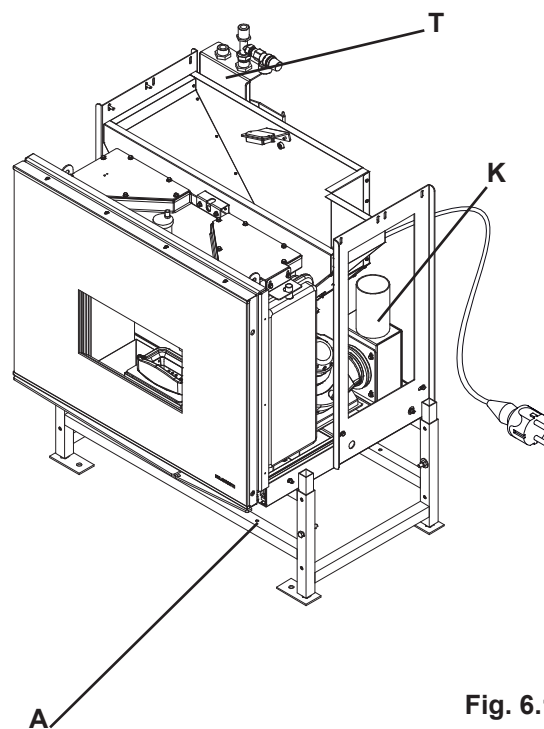
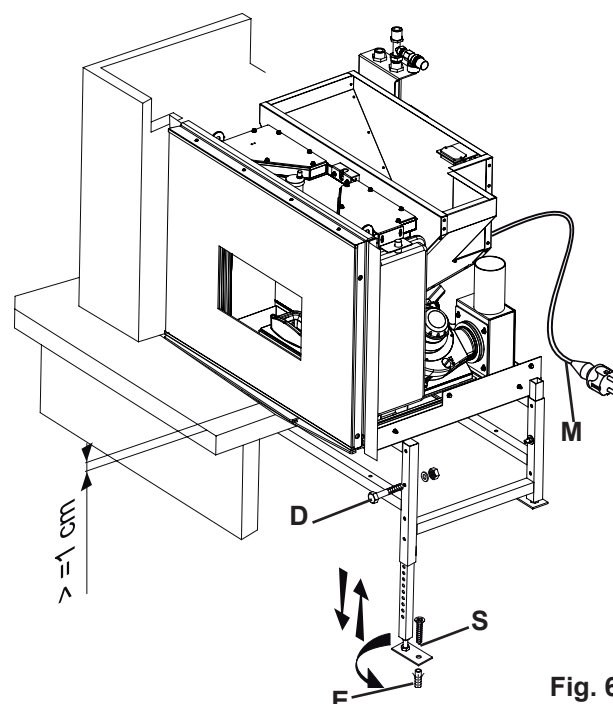

Fig. 6.1
Fig. 6.2
The extraction frame is composed of (Fig. 6.1):
Installation (Fig. 6.1, Fig. 6.2):
1. Vary the height of the stove using the bolts (D) located on the uprights of the frame;
2. Level the frame by screwing the claw feet in or out (S).
5. Fasten the feet (S) of the base with sturdy steel expansion plugs Ø 8 mm (E);
6. Connect the discharge manifold (K) to the smoke outlet duct;
8. Provide for the incoming electrical line on the rear of the stove (M);
The water hose support (T) is placed on the left rear part of the stove (Fig. 6.1).